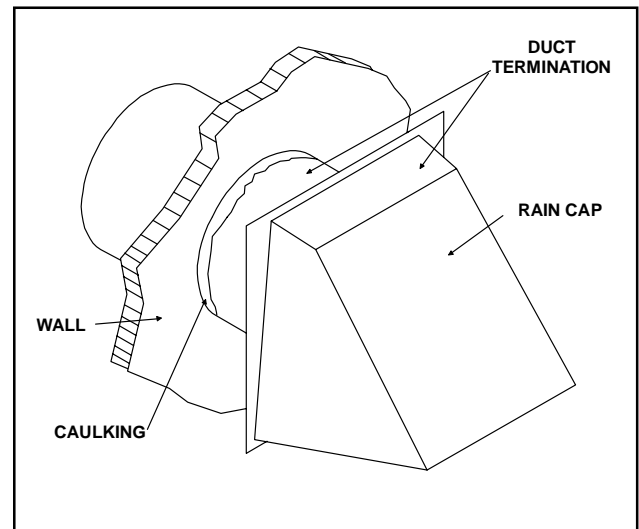

FIGURE 3
2. Attach the side collar with four (4) screws to the side or bottom of the fireplace. Slide the duct over the collar and attach the duct to the collar using the plastic tie straps or three (3) screws (screws not provided). Continue attaching the ducting together using three (3) screws at each joint until you have installed sufficient duct to arrive at the duct termination location.
3. Install the duct termination from the outside of the home and cover it with the rain cap. Cut a hole in the desired location approximately 4 1/2 inches in diameter, caulk around the hole, and slide the termination through the opening from outside the home. The termination/rain cap should be caulked around its perimeter to assure a tight seal. The rain cap opening should be positioned downward. See Figure 3.